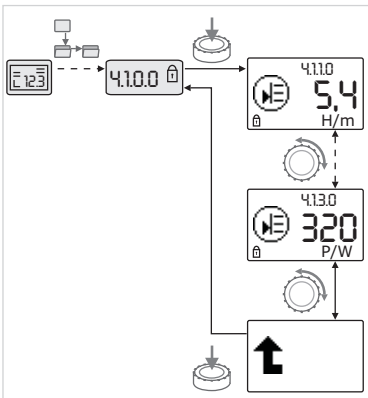

Fig. 40: Calling up information
- Turn the red button to access the “Information” menu elements in the current sub–menu (see Fig. 40). For an explanation of the settings represented by the symbols, see the table in chapter 8.7 “Menu elements reference” on page 37.